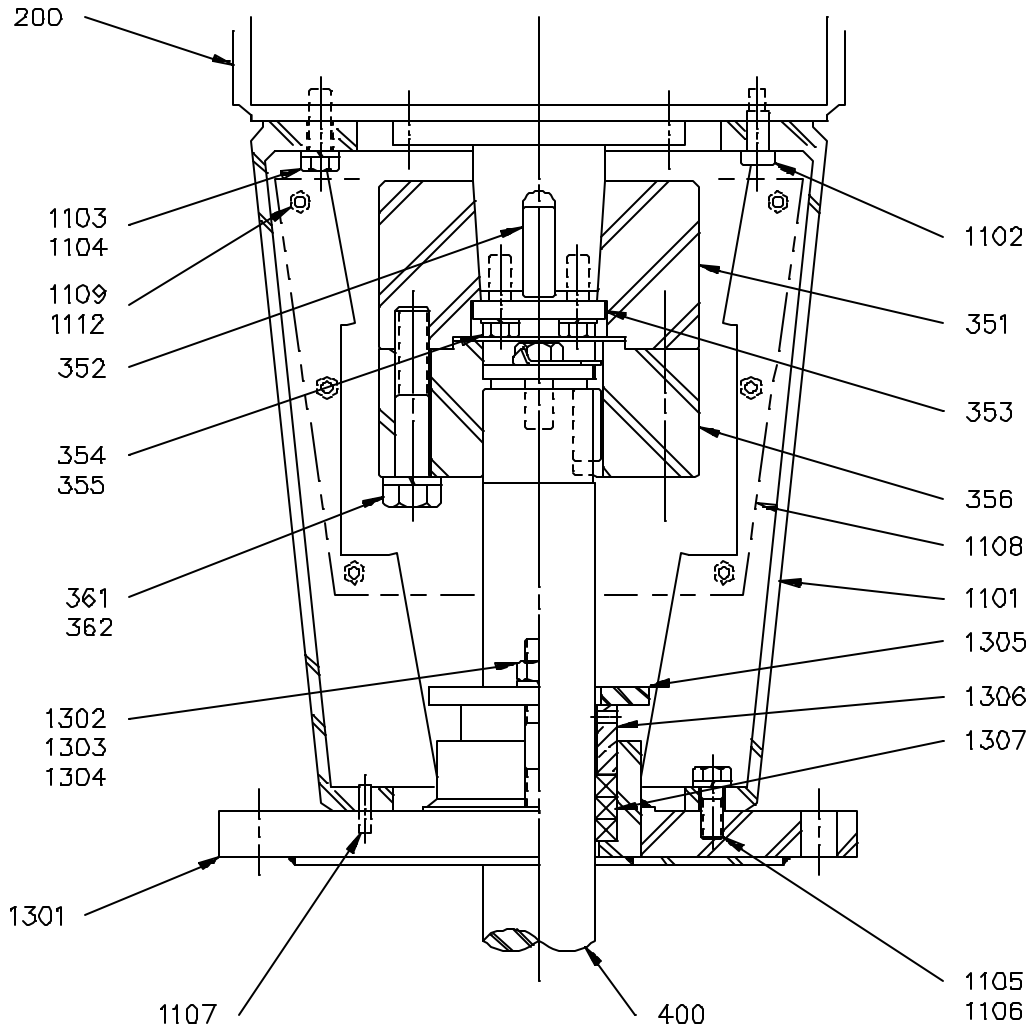
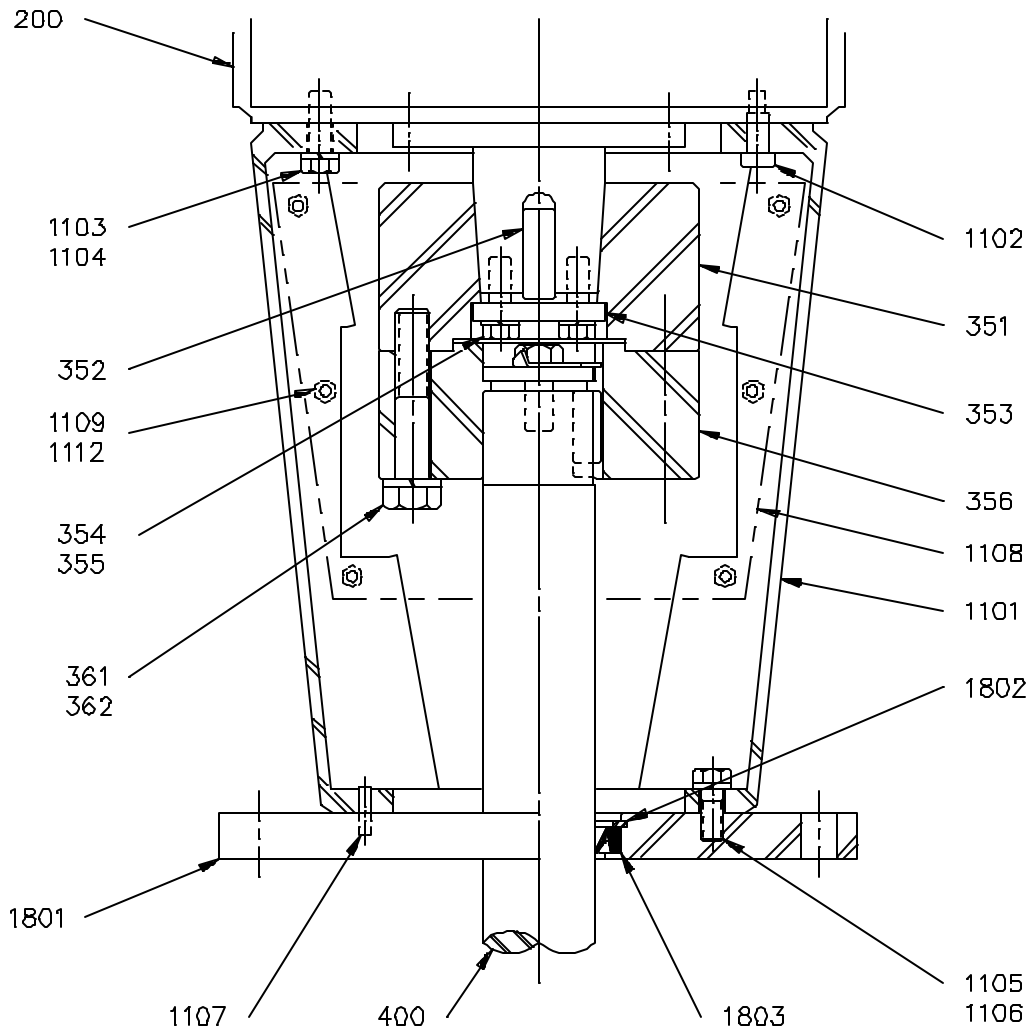

Figure 6: Model HTAL
Figure 7: Model HTL
5. HTAL Units (*Figure 6, page 19*), HTL Units (*Figure 7, page 20*)